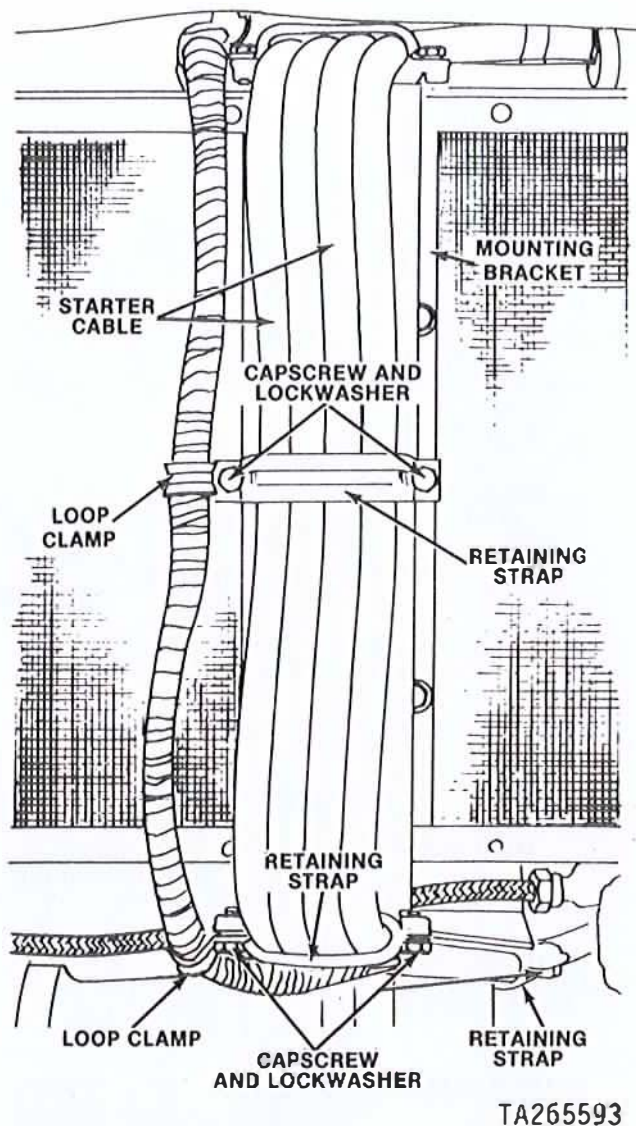

Figure 4-13. Removing or Installing Starter, Smoke and Dust Detector Electrical Cable
(8) Install two retaining straps (fig. 4-13) and secure two loop clamps and mounting bracket with four capscrews and lockwashers.